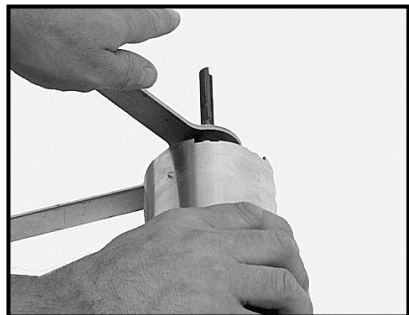

Fig. 2
5. Place one wrench on the flats of the chuck with the opposite end of the wrench resting on the bench to your left (Fig. 2).
6. Place the other wrench on the collet and tighten COUNTER-CLOCK-WISE (Fig. 2). TIGHTEN FIRMLY.